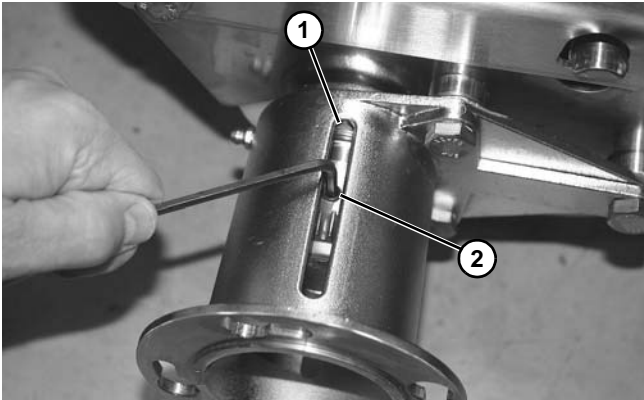

Figure 64
- Using a hex key wrench through slotted access (**Figure 64, item 1**) of motor mount, loosen two set screws (**Figure 64, item 2**) from the center drive gear.